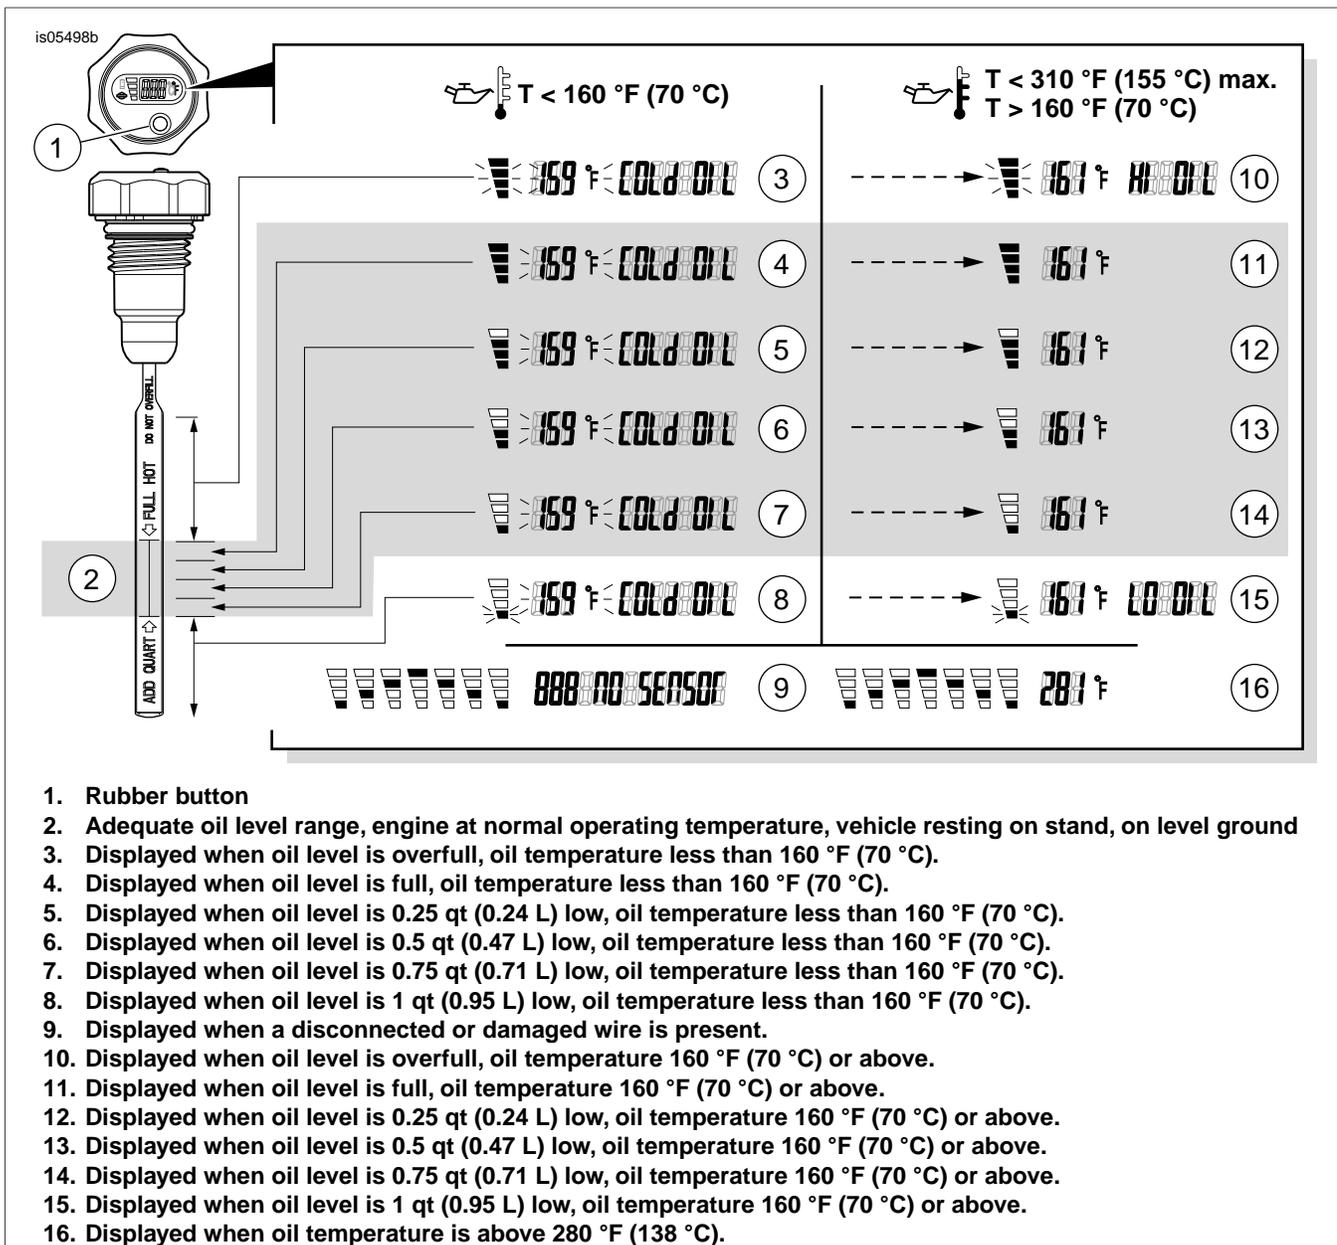

Figure 1. LCD Oil Temperature/Level Dipstick
See Figure 1. Press and release the rubber button on the front face to display the temperature of the oil in the oil tank in degrees Fahrenheit (°F), and the oil level. The display will automatically shut off after approximately ten seconds.
- The oil level should be as indicated in Figure 1, display 4 through 8 (bars showing oil level, and "COLD OIL" message followed by flashing oil temperature) when the engine is cold.
- Press and release the rubber button on the front face of the LCD Oil Temperature/Level Dipstick to display the temperature and level of the oil in the oil tank. The oil level should be as shown in Figure 1, display 11, 12, 13 or 14.
An "888 NO SENSOR" error code and scrolling level (Figure 1, display 9) will indicate a disconnected or damaged wire.
To help prevent failure of the electronics inside, the dipstick will not measure oil **level** when the oil **temperature** exceeds 280 °F (138 °C). Scrolling level will display, along with the temperature (Figure 1, display 16), up to a maximum reading of 310 °F (155 °C).